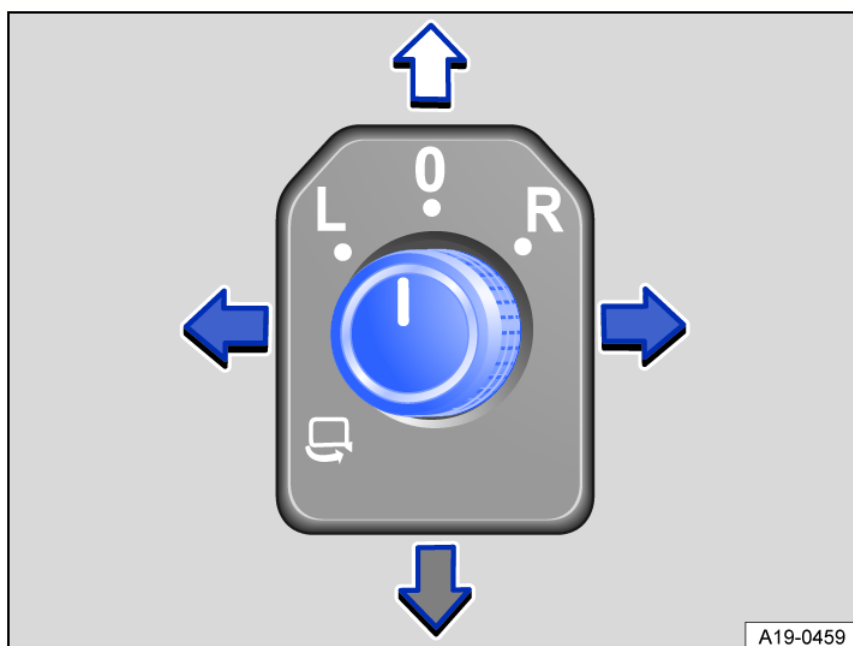

Fig. 98 In the driver door: knob for the outside mirrors.
2. Turn the knob in the driver door to the preferred symbol fig. 98.